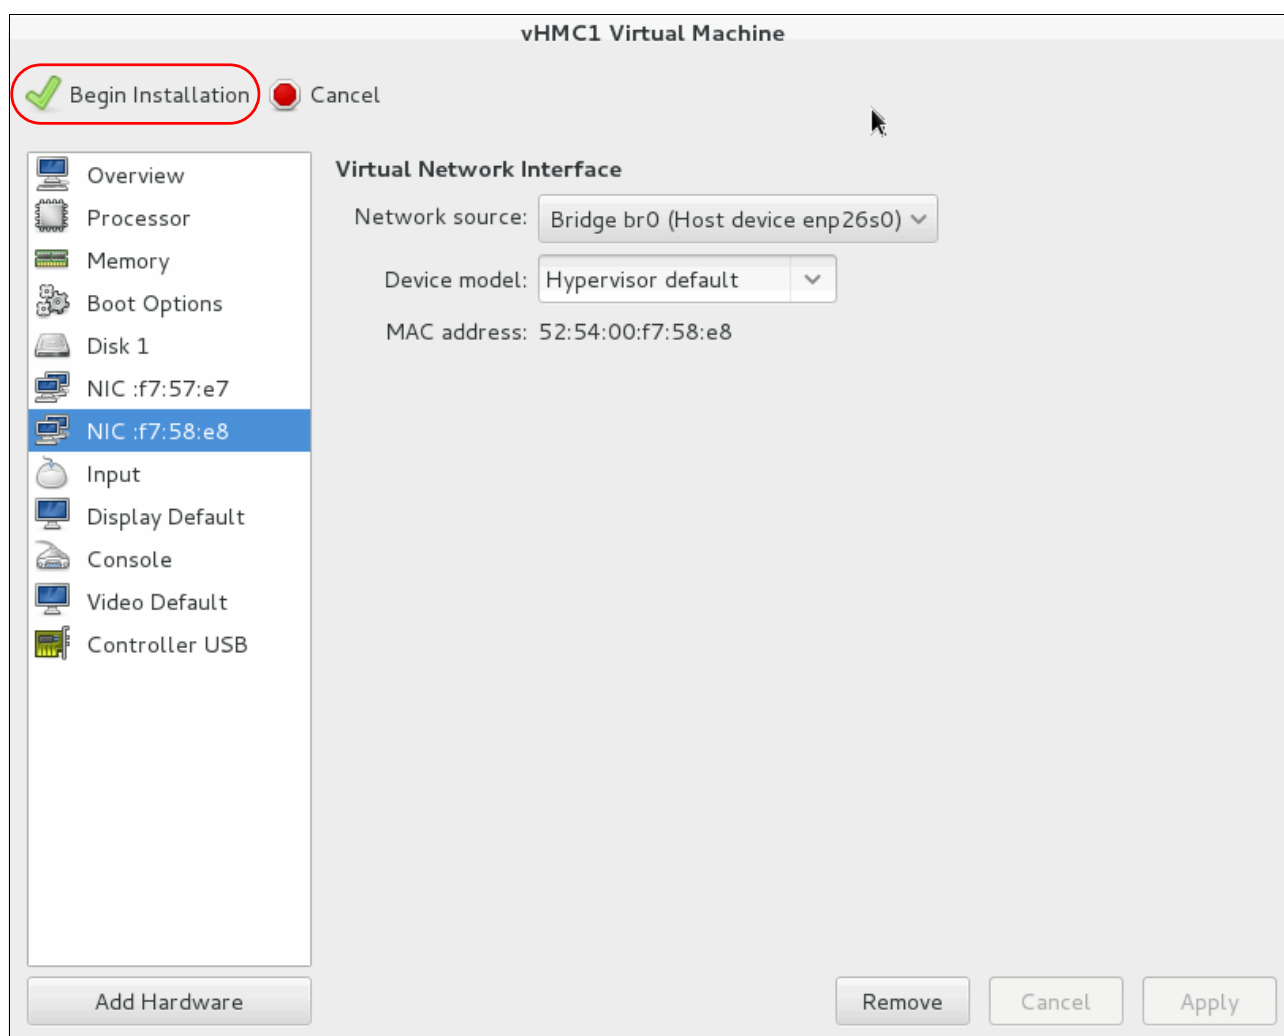

Figure 3-30 Begin Installation
10. In the next panel you can now click **Begin Installation** (Figure 3-30).